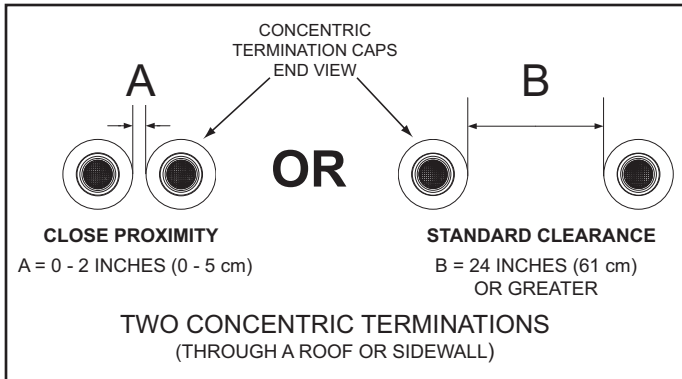
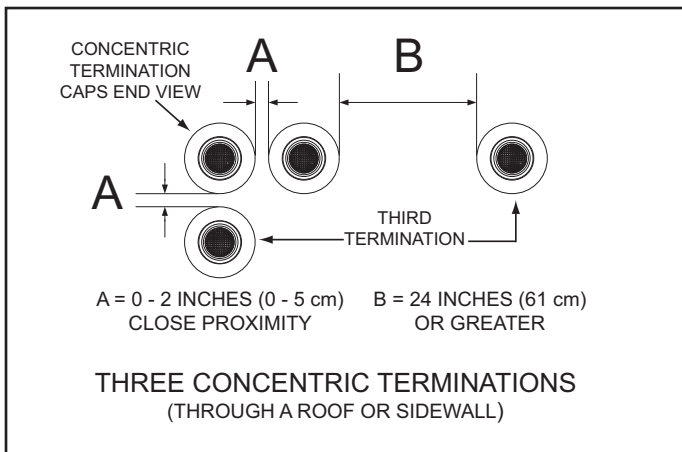
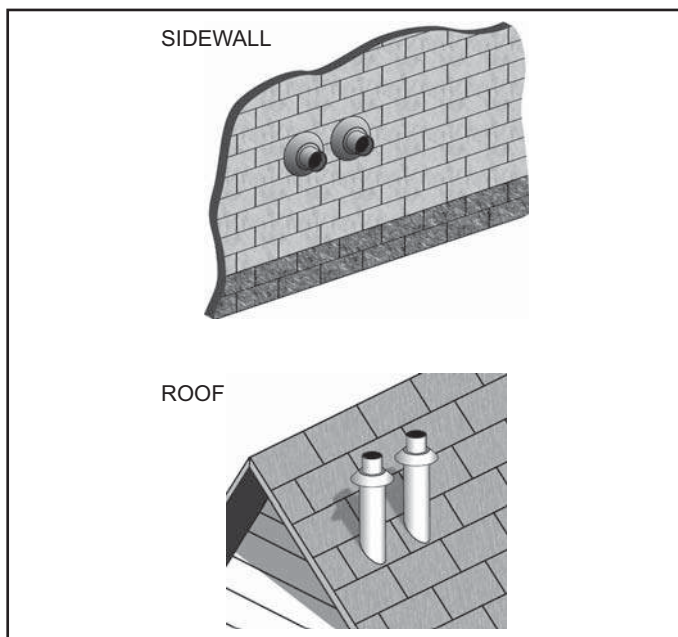

Figure 28
Figure 29
Figure 33. Two Concentric Terminations (Sidewall and Roof)
When installing multiple concentric terminations through a roof or through a sidewall the clearances shown in Figure 28 must be maintained.
1. The clearance between multiple termination caps must be 0 inches (touching) to a maximum of 2 inches (5 cm), dimension A - Figure 28, when installing concentric terminations in close proximity. See Figure 28 through 32.
2. The clearance between multiple termination caps must be increased to a minimum of 24 inches (61 cm), dimension B - Figure 28, when installation in close proximity (above) is not possible. This is the standard clearance.
1. When installing three concentric terminations through a roof or through a sidewall the third termination may be installed in close proximity as indicated by dimension A in Figure 29.
2. If close proximity installation of the third termination is not possible the third termination may be installed as indicated by dimension B in Figure 29.
Two concentric terminations may be installed in close proximity as shown in Figure 33 or with standard clearances when this arrangement is not possible. See Figure 28 on page 30 for detailed information on clearances. See Figure 29 on page 30 when installing three concentric terminations.